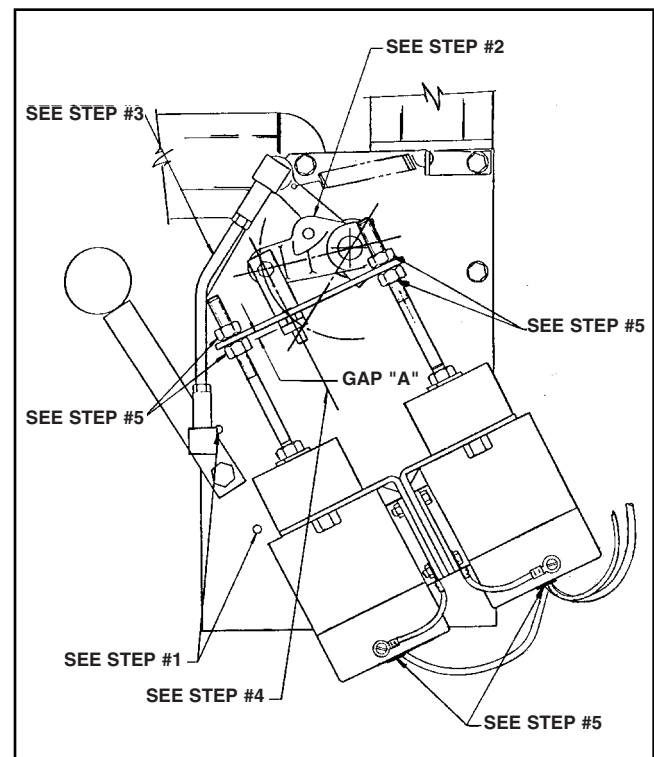

Fig. 4 - Engine Run-Stop Governor Control
INLINE 71 SERIES (Ref. Fig. 4, Pg. 42-B)
STEP 3. Position the solenoids so the centerline of the slide pin equally divides the arc created by the movement of the lever pin. See diagram (Fig. 4).